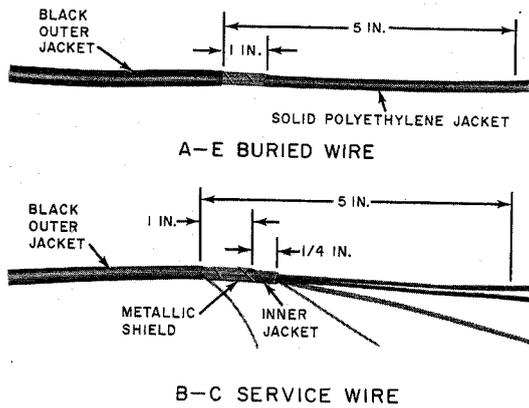

Fig. 32—Sheath Preparation for Placing F Connector
11.03 Remove the metal tape as shown in Fig. 32.